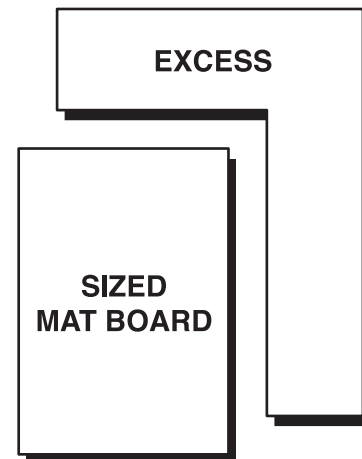

Fig.6
- Step 5** – Using your Logan Mat Cutter and the Logan 701 Straight Cutter, cut the mat board on the lines drawn in Step 4. (Fig. 6)